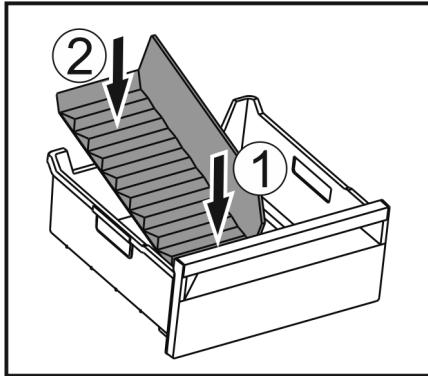

Fig. 147
- Insert the front part of the ice compartment divider. Fig. 147 (1)
- Lower the rear part of the ice compartment divider to the drawer bottom. Fig. 147 (2)